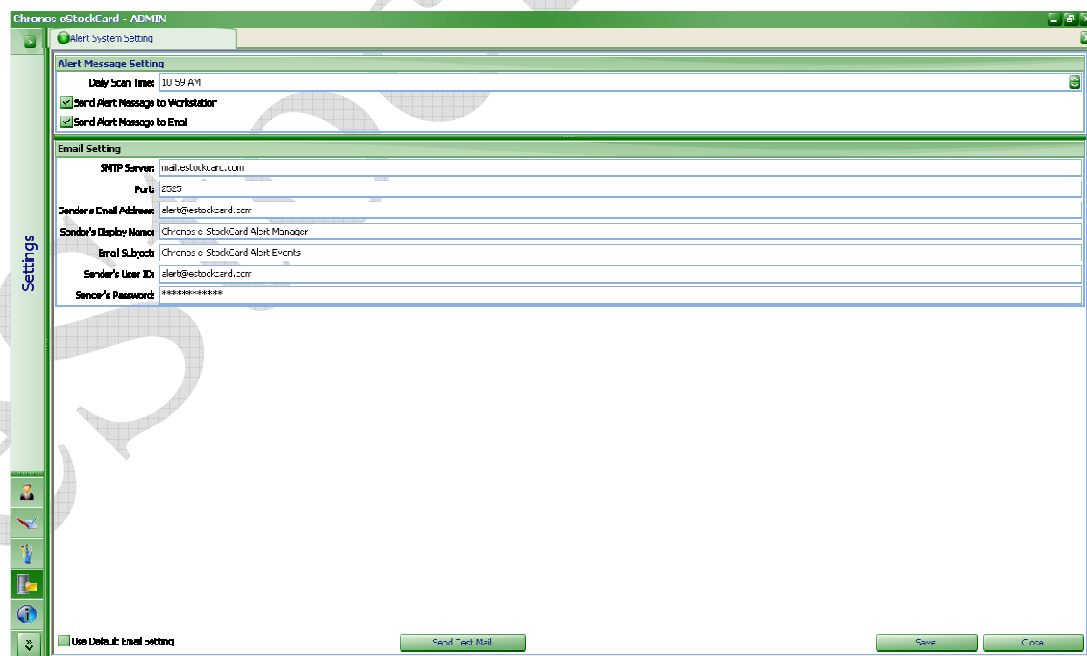

Fig. 60
Step 1 Click “Settings > Alert > System Setting. (Fig. 60)